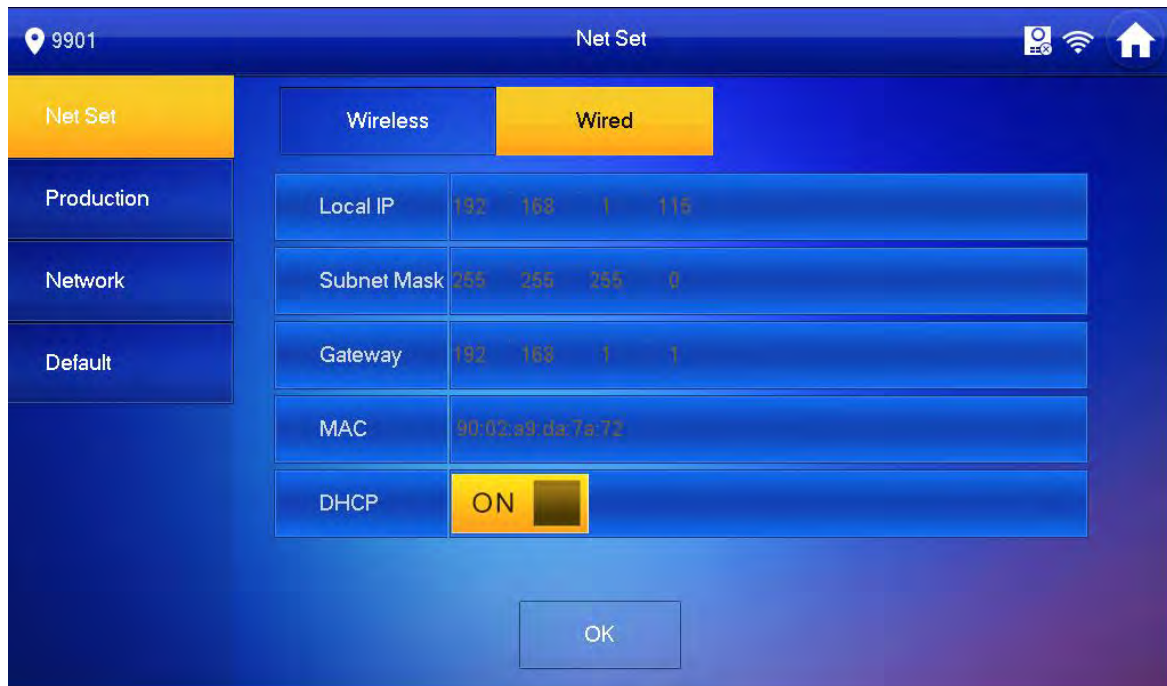

Figure 4-4
1. Select Wired. See Figure 4-4.